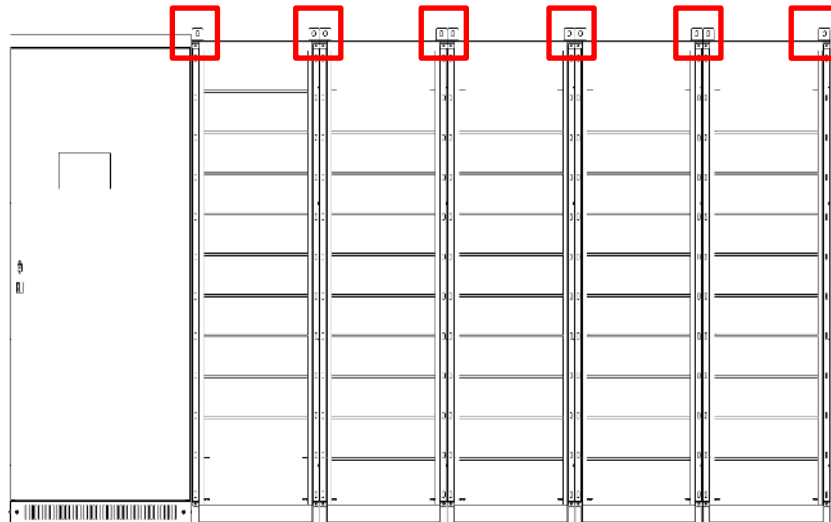

Figure 4.7 PCS and racks installation
c. Place other racks as Figure 4.7 shows.